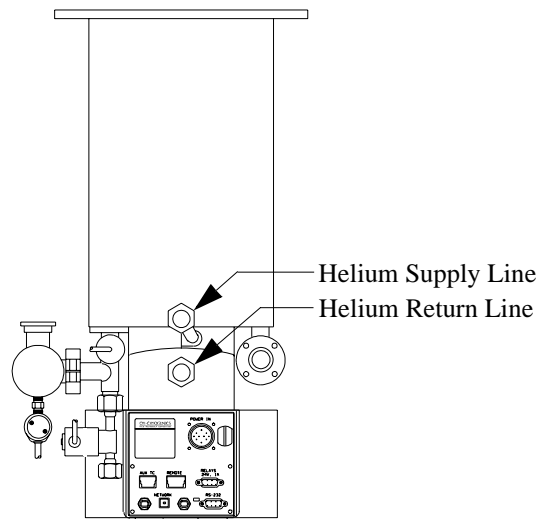

Figure 2: On-Board Cryopump Helium Supply and Return Lines
5. While each On-Board Cryopump is still operating, disconnect the helium SUPPLY line at all of the coldheads on the same manifold. The On-Board Cryopump helium supply line is shown in Figure 2.
6. Immediately after Step 5, and while each On-Board Cryopump is still operating, disconnect the helium RETURN line at all of the coldheads on the same manifold. The On-Board Cryopump helium return line is shown in Figure 2.
15. Reconnect the system helium RETURN line to the return connector on the coldhead as shown in Figure 2.
16. Reconnect the system helium SUPPLY line to the supply connector on the coldhead as shown in Figure 2.